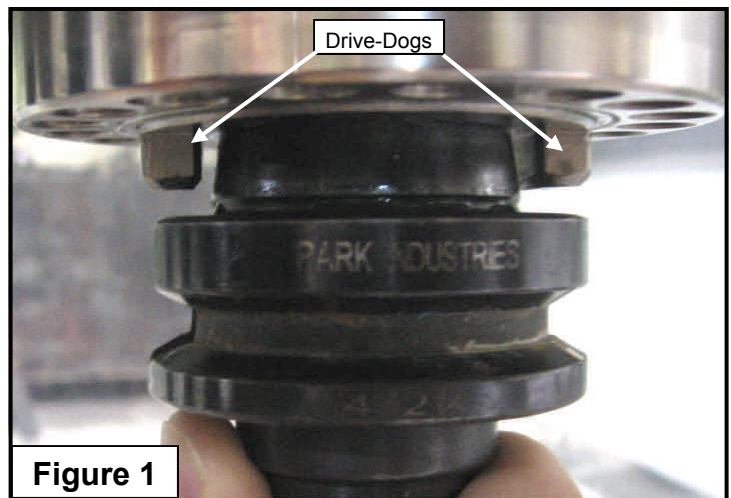
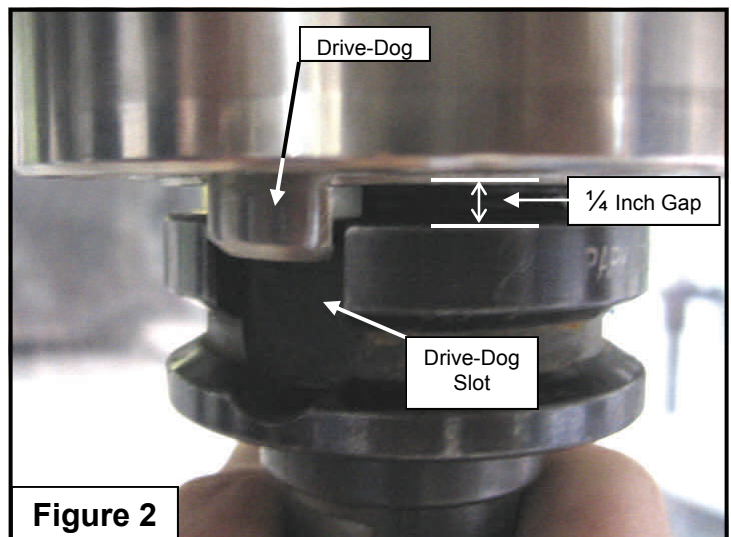

Figure 1
Figure 2
Figure 1 illustrates the gripper assembly's basic parts. The gripper is a tube about one inch in diameter. The brass bushing/O-ring assembly is free to move inside the tube, but is pinned in a way that it does not fall out. The spring pushes the bushing and O-ring downward.
Figure 2 illustrates the inside shape of the tapered portion of the spindle. Note the cavity located between the tapered portion and straight upper part. When extended the gripper moves into this cavity and the balls are able to move outward allowing the retention knob to be inserted.
* As the tool is inserted into the spindle, resistance is encountered when the tool is about 1/4 inch from the drive dogs. See Figure 1. **Push through the resistance** ensuring the spindle's drive dogs align with the tool's drive-dog slots and the gap between the bottom of the spindle and the top of the tool is about 1/4 inch before releasing the spindle release button. See Figure 2.